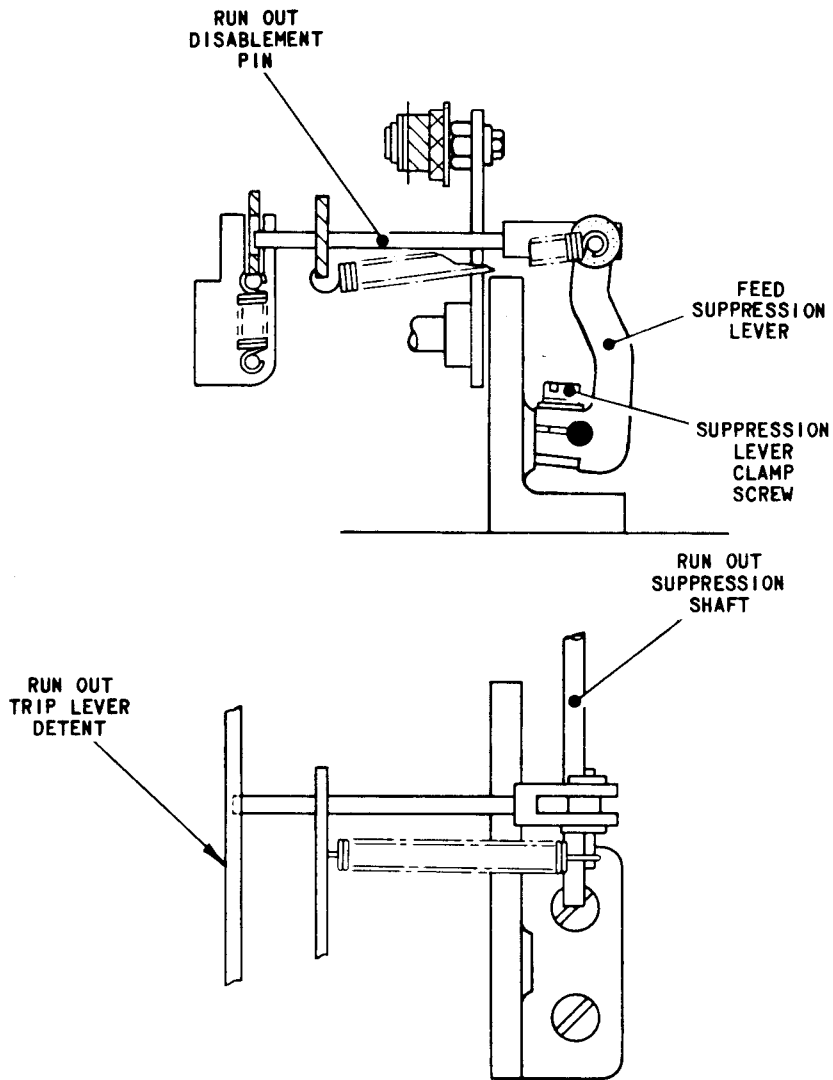

FIG.L.16 RUN OUT DISABLEMENT PIN POSITION
16.1 With the machine in the rest position and all three clutches disengaged, check that the feed suppression lever, Fig.L.16, is so positioned axially along the run out suppression shaft that the disablement pin is approximately at right angles to the trip lever detent.
16.4 To adjust, hold the run out control lever, Fig.L.15, down on to the trip lever and the control cam lever, and position the feed suppression lever, Fig.L.16, on the suppression shaft to obtain the required condition. Tighten the suppression lever clamp screw.